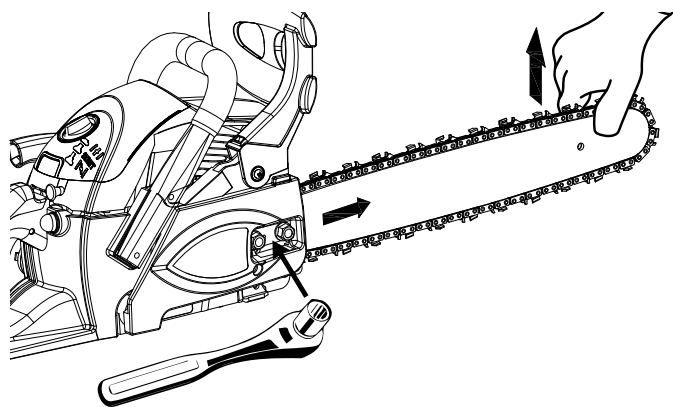

Fig. 25
2. On the clutch housing, loosen (counter clockwise) the two 13mm nuts (1/4 to 1/2 turn) that secure the housing to the engine assembly. The nuts need to be loosened enough to allow the bar to move. Do not loosen the nuts more than 1 full turn. You will notice that the bar will move with minimal effort (Fig. 25).